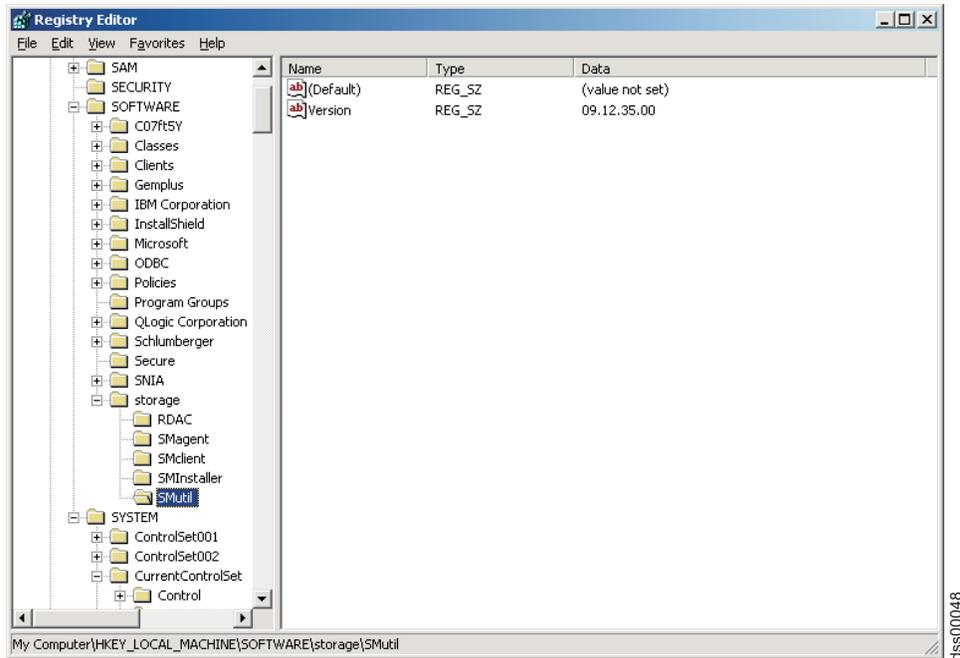

Figure 19. Registry Editor window
3. For each package that you installed, there would be a folder under the \HKEY_LOCAL_MACHINE\SOFTWARE\Storage key. Click on that folder name and look for the Version data field in the right window pane. The Version data field will have the correct version of the host software package that you installed. Record these versions for future reference. For example, Figure 19 on page 76 shows that all four host-software packages were installed in this server and the version of the SMUtil package is 09.12.35.00.